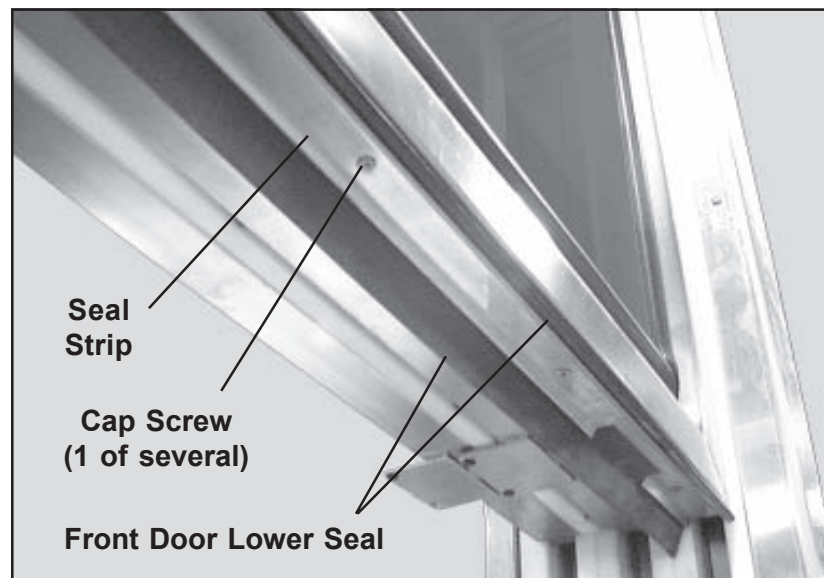

Figure 85. Front Door Lower Seal Components
2. With a screwdriver, remove all the cap screws holding the seal strip and seal in place on the bottom of the front door (Figure 85). **Note:** The number of screws will vary with the dimensions of the door.